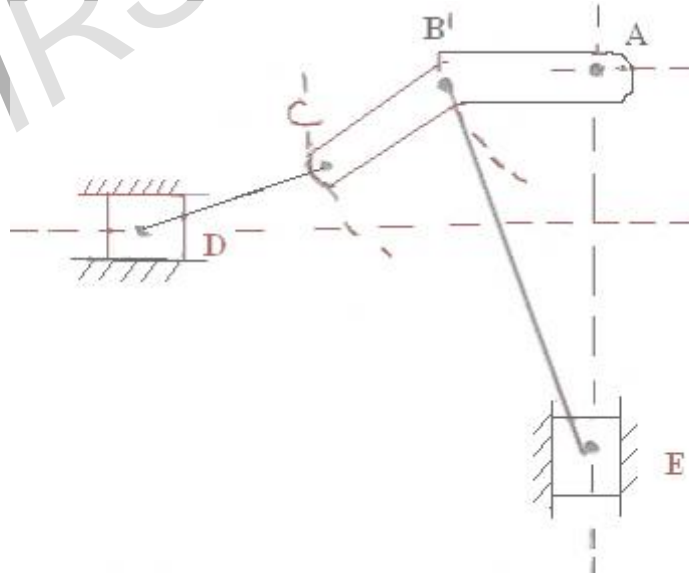

Figure 5
2. Figure 5 shows the mechanism of a pneumatic riveter. The arms AB and BC are each 175 mm long, link BE is 500 mm and link DC is 325 mm long. The centre line of the piston is horizontal and 200 mm below A and AC is vertical, BE makes an angle of 12° with the vertical. Find the velocity ratio between D and the ram E when AC is vertical, and the efficiency of the machine if a load of 2.5 kN on the piston causes a thrust of 5 kN at E. Use instant centre method. [16]